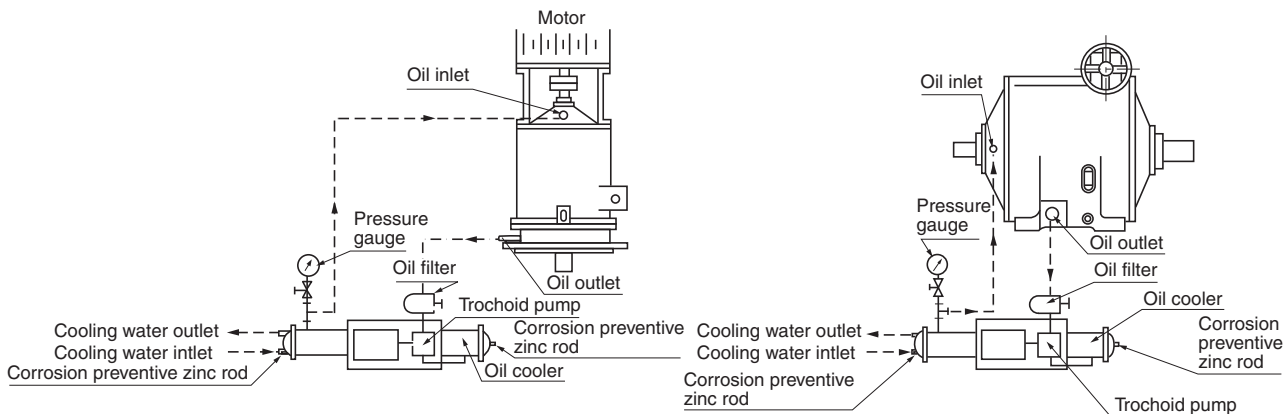

Fig. 21
- (1) Install this device within 0.5m in a vertical upward location, or within 1.5m in a vertical downward location, and within 3m horizontally from main body of the Beier Variator. Minimize pipe bands.
- (2) The outline diagram shows both the Beier Variator and its lubricating oil cooling device. According to Fig. 21, install piping at the site along the broken lines. Use a gas pipe for the piping. Use a 1-1/2B to 2B gas pipe for the Beier Variator oil outlet, and use a 1B gas pipe for the oil inlet.